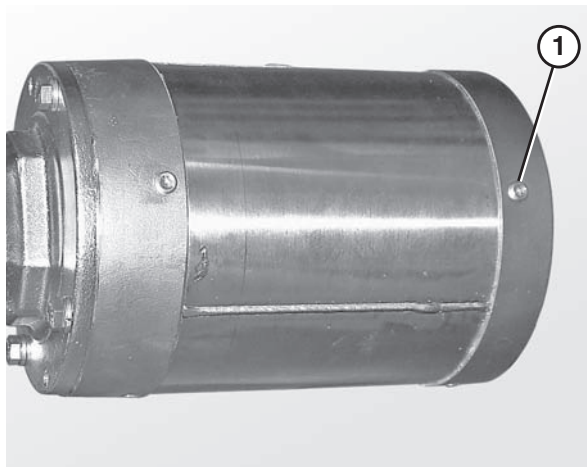

Figure 20
7. Remove the drainage plugs (Figure 20, item 1) on the bottom side of the motor.